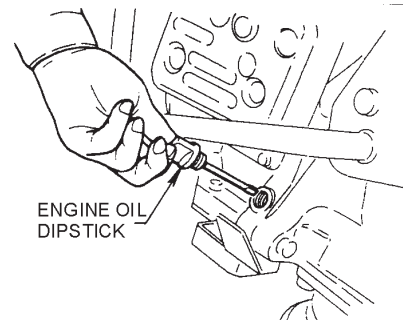

Figure 6. Engine Oil Dipstick
2. Remove the filler dipstick from the engine oil filler hole (Figure 6) and wipe it clean.